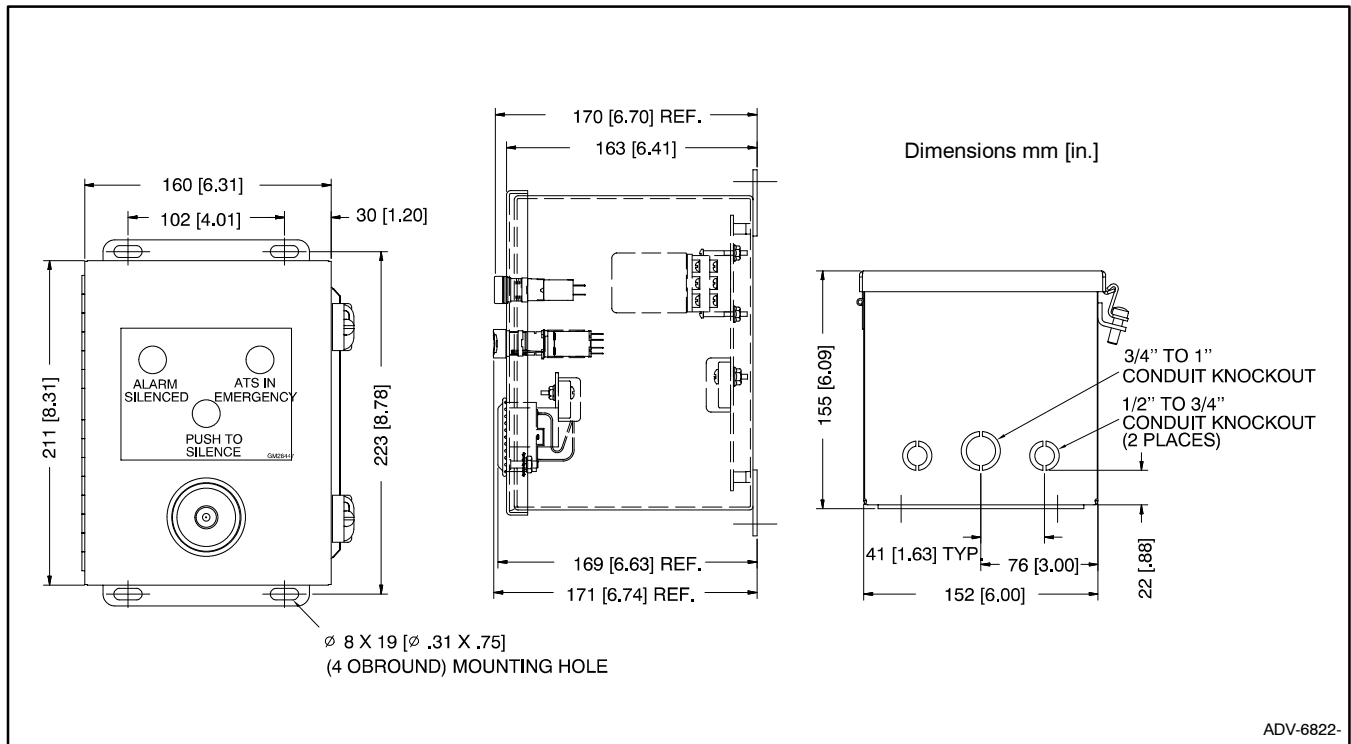

Figure 2 Dimensions
- 2.1 Select a wall or other rigid mounting surface for the alarm box. Use the mounting holes on the alarm box as a template or refer to Figure 2 to mark the locations of the mounting holes on the mounting surface.